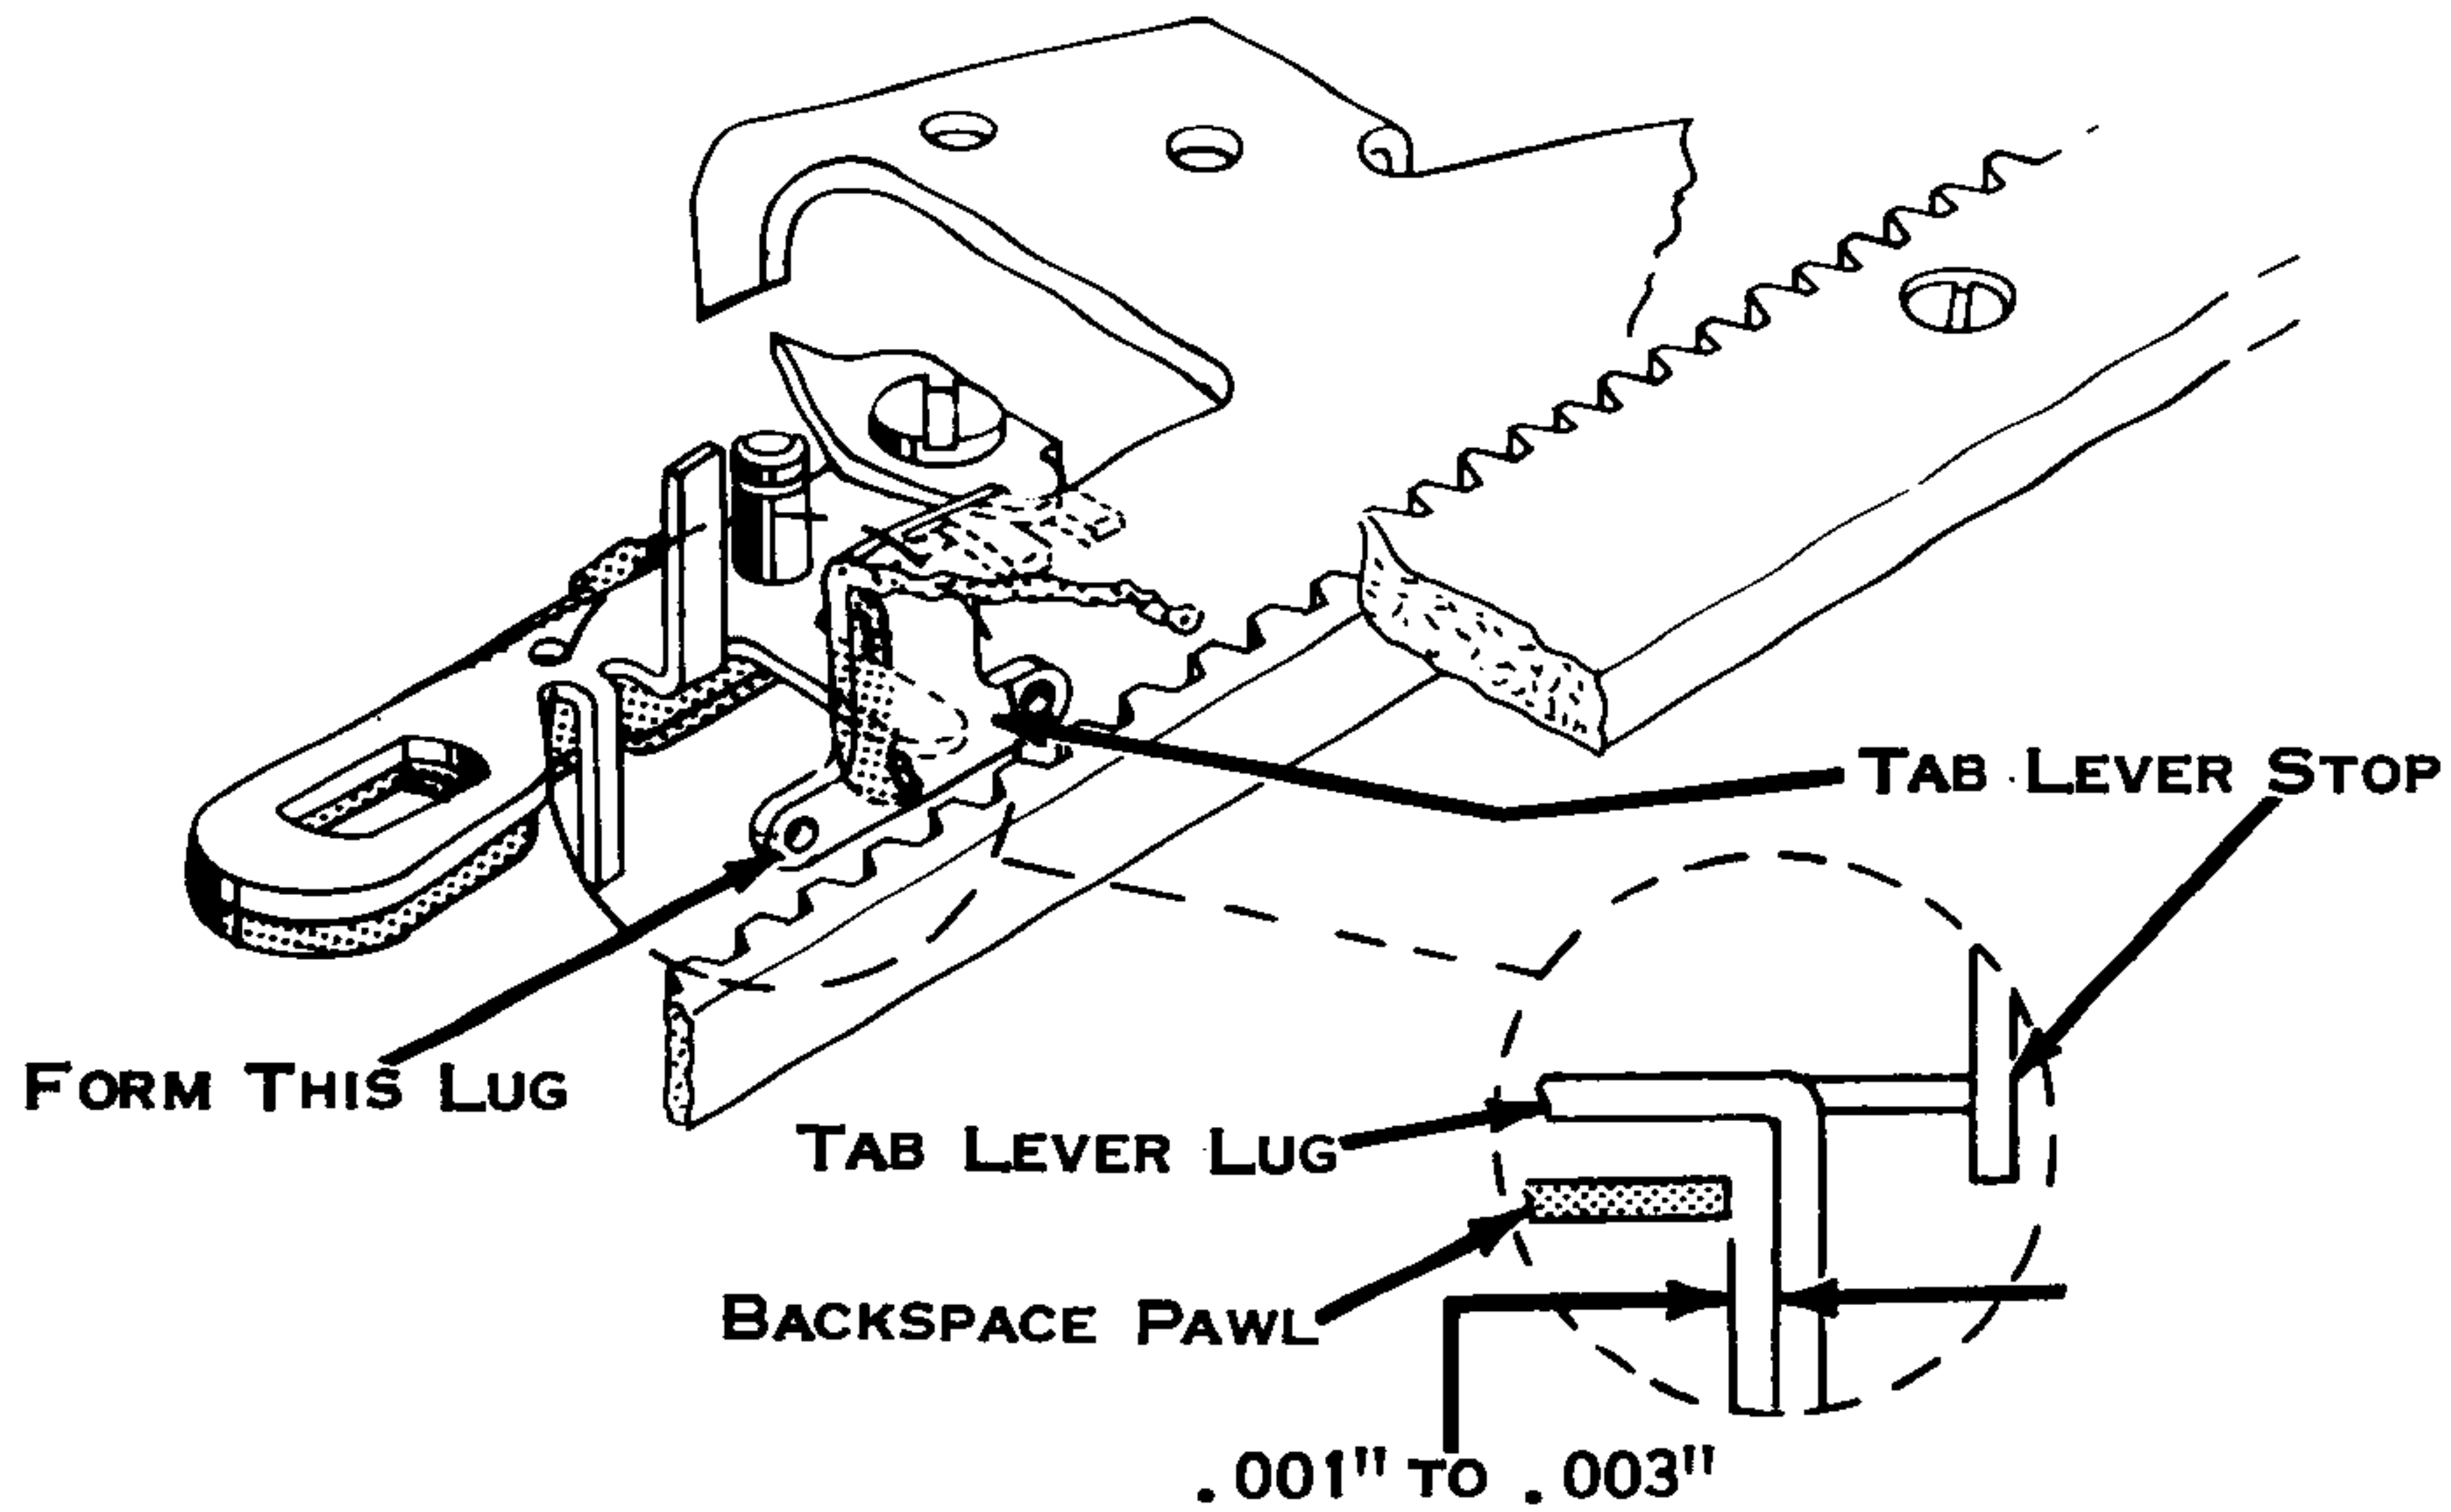

Figure 159. Tab Lever Stop
2. Tab Lever Stop (Fig. 159) - Form front to rear so that .001" to .003" clearance exists between the tab lever lug and the backspace pawl with the backspace pawl bottomed in its rack.